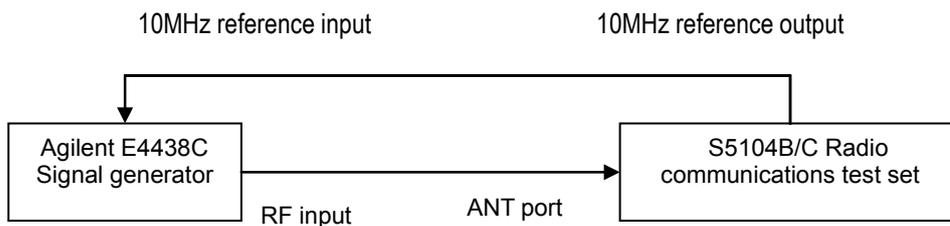

Fig. 6-11 Block diagram for sweep spectrum characteristics tests
- 1) As shown in Fig. 6-11, connect the test instrument, set the output frequency of the signal generator to 300 kHz and the amplitude to -10 dBm; set S5104B/C to the sweep spectrum mode with the center frequency of 300 kHz, the sweep of 100 kHz, the reference level of 0 dBm and the resolution bandwidth of 3 kHz;
- 1) As shown in Fig. 6-11, connect the signal generator to the ANT port of S5104B/C, and set S5104B/C to the sweep frequency spectrum mode; set the input frequency of the signal generator to 300 MHz; set the center frequency of S5104B/C to 300 MHz, sweep width to 100 kHz, and other parameters to auto;
- 1) As shown in Fig. 6-11, connect the signal generator to the ANT port of S5104B/C, set the output frequency of the signal generator to 300 MHz and the power to -10 dBm; set S5104B/C to the sweep frequency spectrum mode, with the center frequency of 300 MHz and the reference level of 0 dBm;
1) As shown in Fig. 6-11, connect the signal generator to the ANT port of S5104B/C, set the output frequency of the signal generator to 300 MHz and the amplitude to -10dBm, enable AM with the modulation rate of 100 Hz and the AM depth of 100%; set S5104B/C to the sweep spectrum mode, with the center frequency of 300 MHz, the sweep of 0 Hz, the reference level of 0 dBm, the amplitude unit of Volts and the sweep time of 100 ms;
1) As shown in Fig. 6-11, connect the signal generator with the ANT port of S5104B/C, and set S5104B/C to the broadband
1) As shown in Fig. 6-11, connect the signal generator to the T/R port of S5104B/C, and set the output frequency of the signal generator to 300 kHz and the amplitude to + 19 dBm. Set S5104B/C to the RF RX mode, narrow-band power measurement reference carrier to 300 kHz, reference level to +51 dBm, and IF bandwidth 10 kHz; record the measured narrow-band power value of the T/R port in corresponding space of Table A.1;
1) As shown in Fig. 6-11, connect the test instrument and set the output frequency of the signal generator to 300 kHz and the power to - 10 dBm; set S5104B/C to the RF RX mode, with the reference carrier frequency of 300 kHz, IF bandwidth of 10 kHz, and reference level of 0 dBm; enable the function of frequency error meter, and record the measured frequency error value in corresponding space in table A.1;
1) As shown in Fig. 6-11, connect the signal generator to the ANT port of S5104B/C, set the output frequency of the signal generator to 300 kHz, the output amplitude to -10dBm, and enable AM with the modulation rate of 20 Hz and the AM depth of 50%;